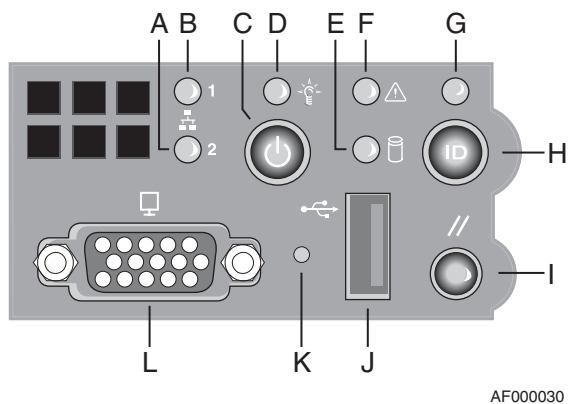

Figure 1-1 SGI Altix XE240 Head Node Controls and Indicators
Power on any mass storage units attached to your cluster, then press the power button on the front of the head node (see callout C in Figure 1-1) and let it fully boot. Repeat the process on all the other nodes (compute nodes) in the cluster.
3. To power off the compute nodes, press the power button (for up to 5 seconds) on the front panel of each unit (see Figure 1-1 on page 12).
4. To power off optional storage units in the cluster rack, press the power button(s) on their rear panel to the OFF (O) position.